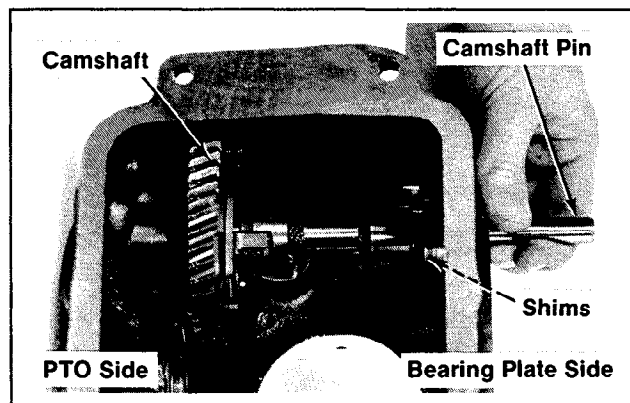

Figure 10-9. Removing Camshaft.
2. Remove the camshaft pin, camshaft, and shim(s) on bearing plate side of camshaft. Refer to Figure 10-9.